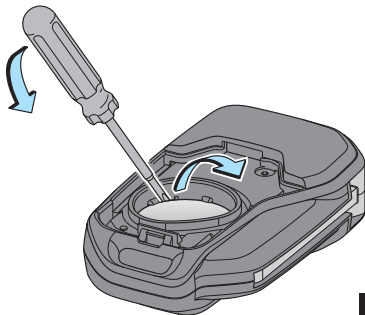

Fig. 13
- Using a small connector, gently lift the key fob battery from the side as shown in the figure. Care should be taken not to damage the key fob body (ref. Fig. 13).